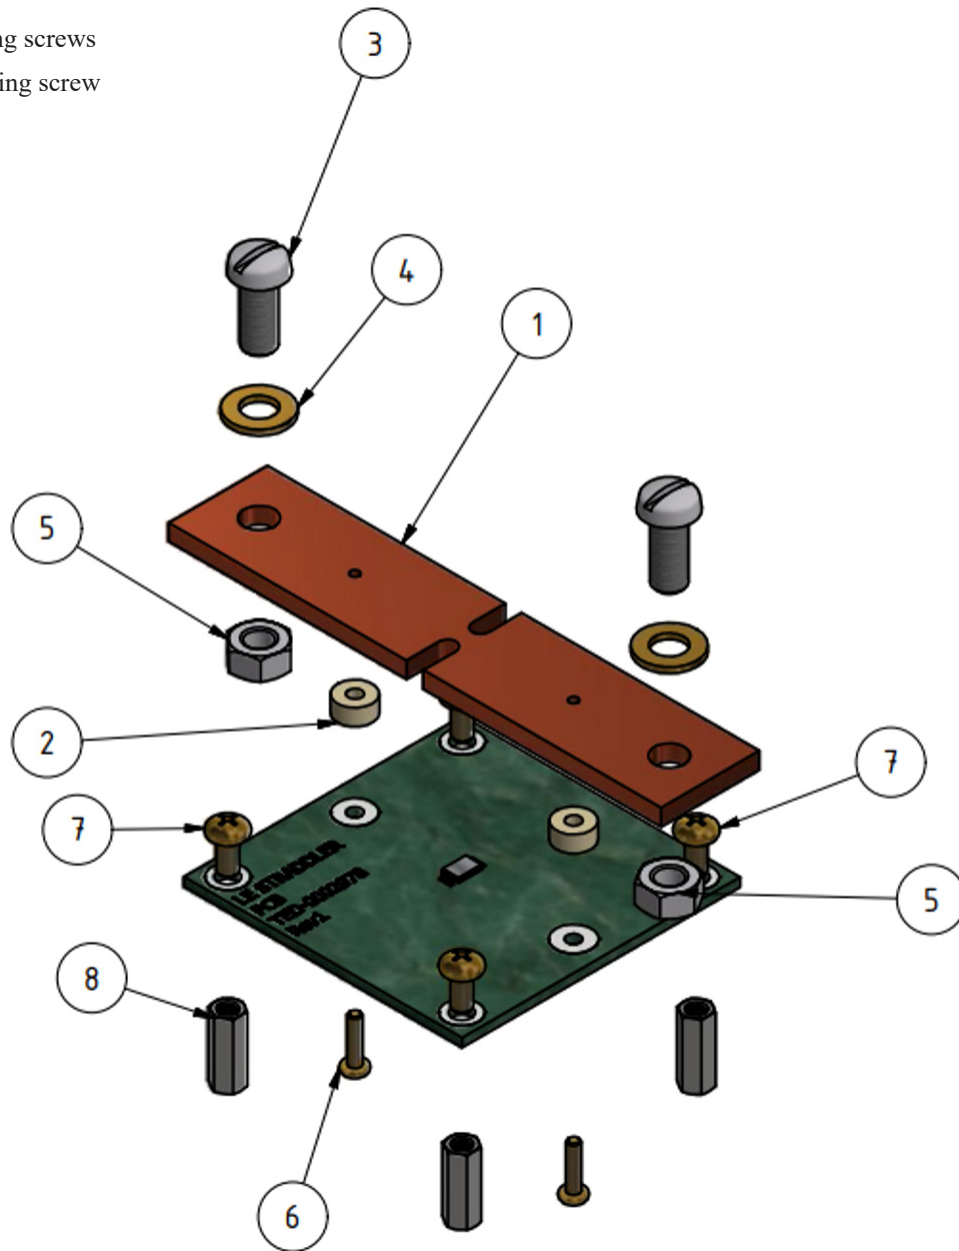
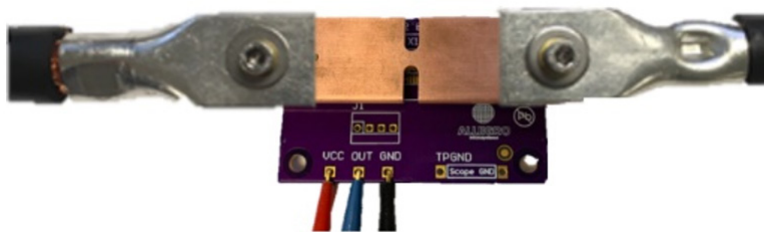

Figure 4: Exploded View of ASEK37612 Evaluation Kit Components
Figure 19: Primary Current Connections
An exploded view of the complete ASEK37612 evaluation kit is shown in Figure 4. See the Bill of Materials section below.
The reference busbar can be affixed to the top of the ASEK37612 PCB by lining up the notch with the TSSOP-8 footprint and using the busbar standoffs (item 2 in Figure 4) and the busbar mounting screws (item 6 in Figure 4). Using the 3 mm busbar standoffs and an active area depth of 0.36 mm, the approximate air gap is 2.26 mm. Note active area depth is the distance from the top of the package to the Hall plate, as defined in the ACS37612 datasheet. Note the PCB laminate has a width of 1.57 mm \pm 10%.
High current may be applied directly to the busbar using the current connection screws (item 3 in Figure 4). The high current connections are shown on the ASEK37612 evaluation board for reference below in Figure 19.